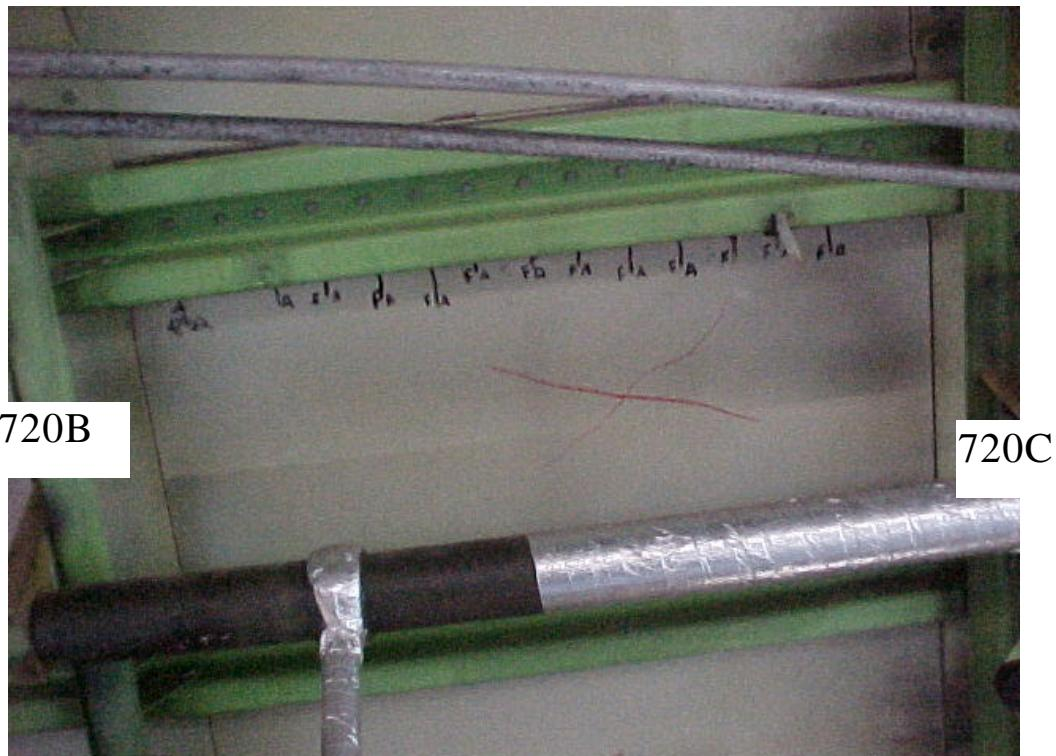

Figure C-15. Photograph of indication locations found during DVI and MFEC inspections. Stringer 4R, BS 720B to BS 720C.
- FIGURE C-15 Photograph of indication locations found during DVI and MFEC inspections.